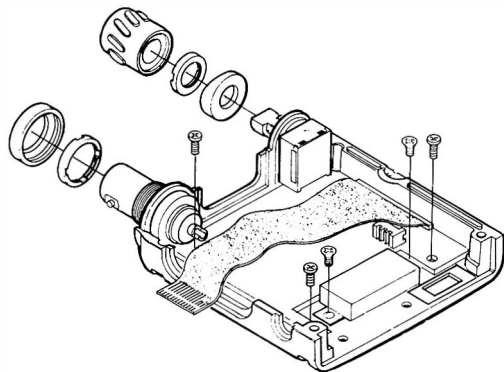

Figure 5.
- Remove the top panel DIAL selector knob and antenna gasket, as shown below, then remove the locking nuts from the BNC jack and rotary switch. Use a tool designed for this purpose, or a pair of needle nose pliers (take care not to damage the threads), see Fig. 5 below.